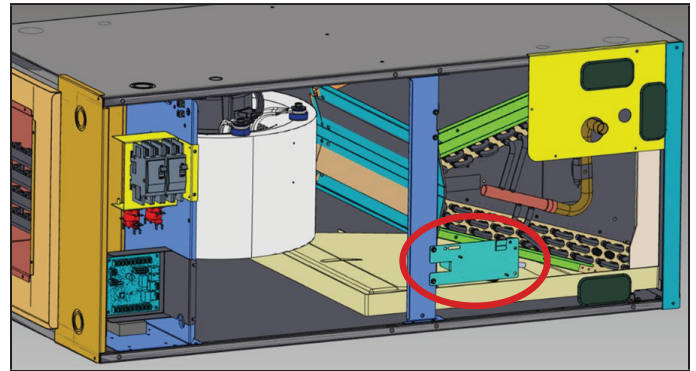

FIGURE 10
- 3 - After coil assembly and center support bracket are reinstalled into unit, with air handler unit panels removed, install sensor bracket assembly to the center support bracket by lining up the holes as shown in figure 10.